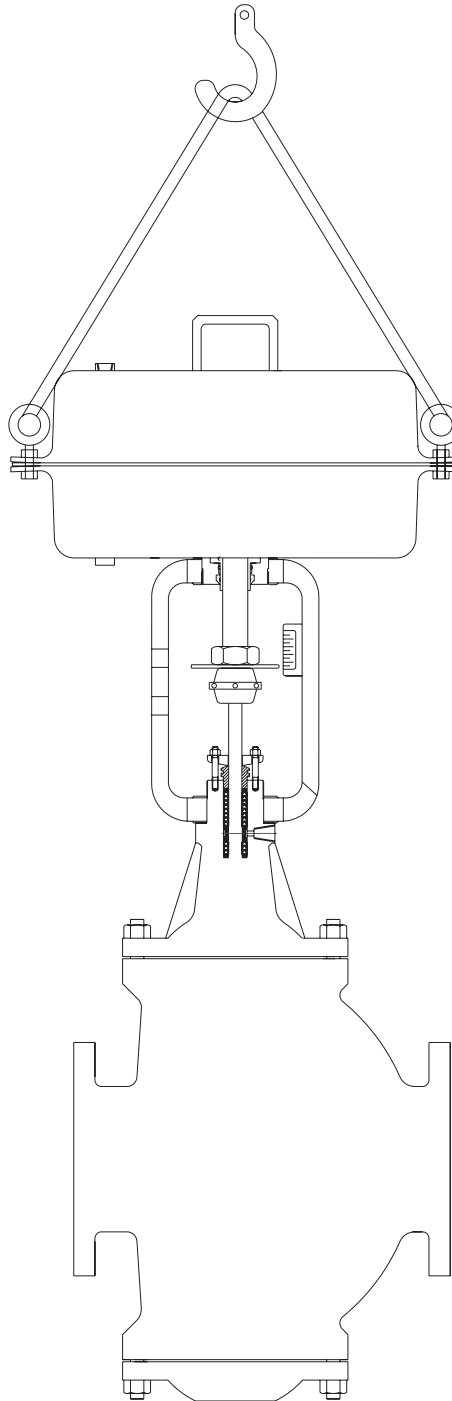

Fig. 1
- Lift the Valve properly as shown in figure 1
Valve should be lift by using chain or bearer cables as shown in figure 1. (Take care that Valve should not damage while handing).